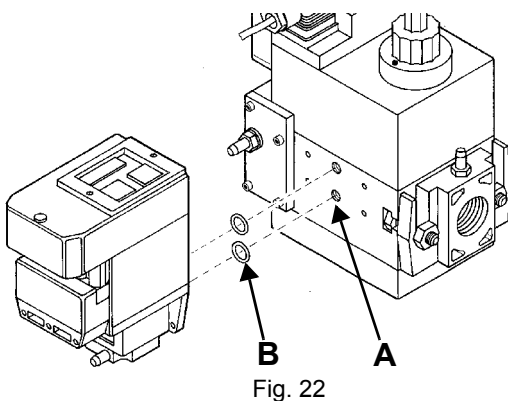
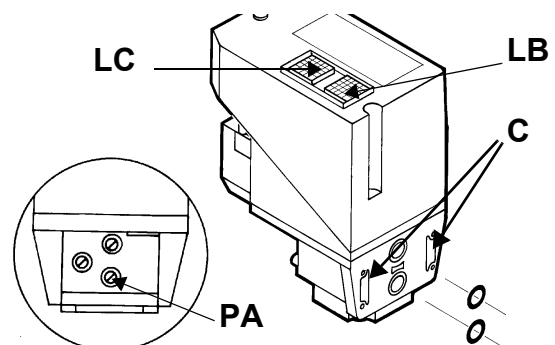

Fig. 22
Fig. 23
- 3 remove the Multibloc screw plugs (Fig. 22-A);
- 4 insert sealing rings (10,5 x 2,25) into VPS 504 (Fig. 22-B - Fig. 23)
- 5 Torque screws 3, 4, 5, 6 (M4 x16) Fig. 23-C
When wishing to monitor the test, install a pressure gauge ranged to that of the pressure supply point PA (Fig. 23). If the test cycle is